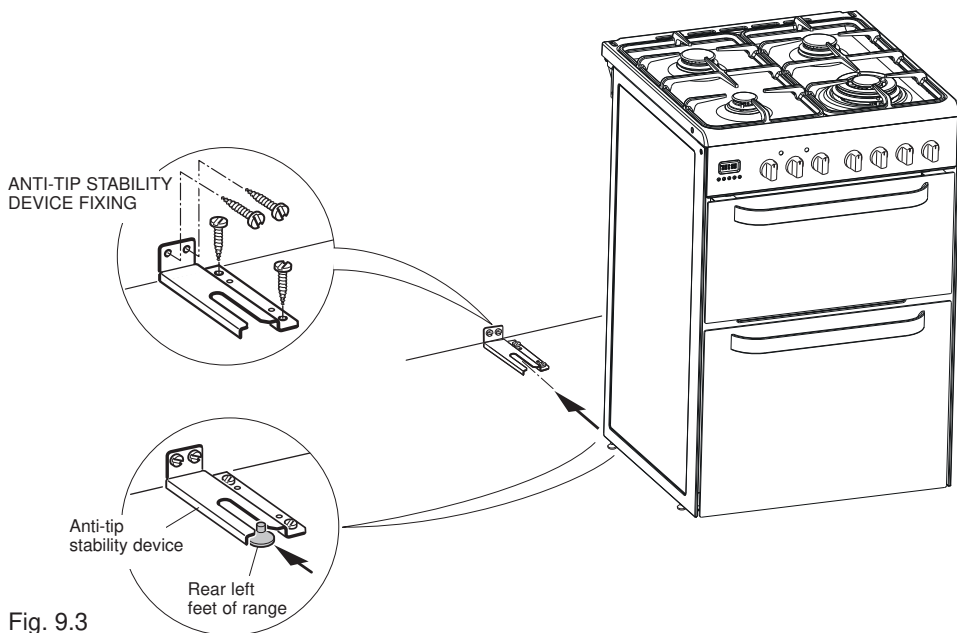

Fig. 9.3
1. After you have located where the cooker is to be positioned, mark on the wall and on the floor the place where the four screws of the anti-tilt bracket have to be fitted. Please follow the indications given in fig. 9.3.
2. Drill four 8mm diameter holes for the fixing screws (two in the wall and two in the floor—see fig. 9.3) and insert the plastic plugs supplied.
3. Attach the anti-tilt bracket to the floor and rear wall using the four screws supplied, as shown in fig. 9.3.
4. After attaching the anti-tilt bracket securely, slide the cooker into place. Ensure that the rear left foot slides under the bracket, as shown in fig. 9.3.